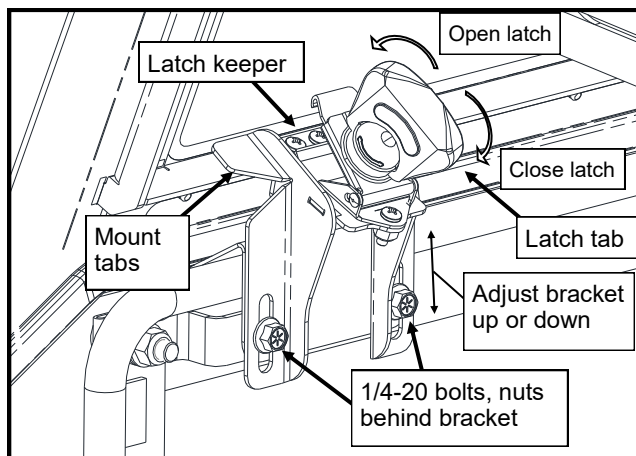

Figure 10.5: Rear Panel Latches
- 10.5 Install one rear panel latch mount to each rear panel tab and bracket with (2) flanged hex 1/4-20 x 3/4" bolts and flanged nuts per latch (see Figure 10.5). Leave loose.
- 10.6 Open the rear panel latches on the lower rear panel by lifting the tab and rotating the tab counter-clockwise. Hook the latch onto the keeper on the upper rear panel and slightly rotate the latch tab clockwise to partially close (see Figure 10.5).